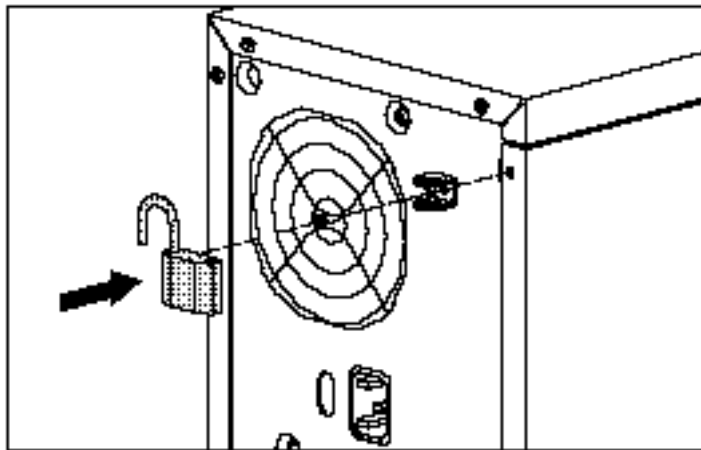

Figure 1-4. Securing the system
2. If desired, the side access panel can be locked (with a customer-supplied padlock) to prevent unauthorized access to system components. See Figure 1-4.